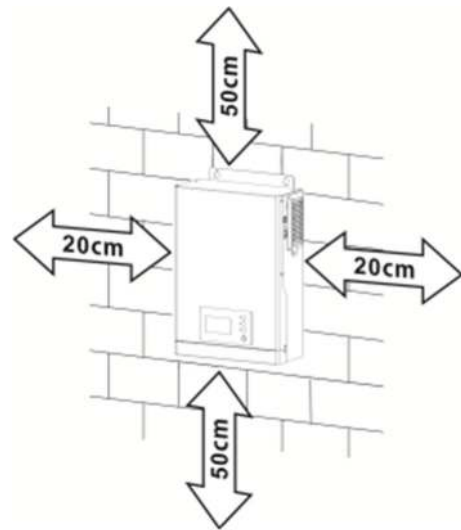

Fig. 4: Minimum distance to other objects
- Ensure a minimum distance to other objects and surfaces as shown in Fig. 4 to guarantee sufficient heat dissipation and to have enough space for removing wires.